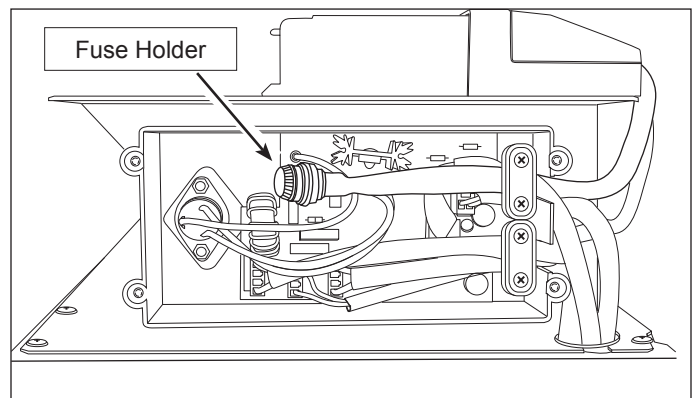

Figure 4-12 Fuse Removal
3. Grasp top section of fuse holder with fingers and turn counterclockwise. Pull cap and fuse out of fuse holder. (See Figure 4-12)